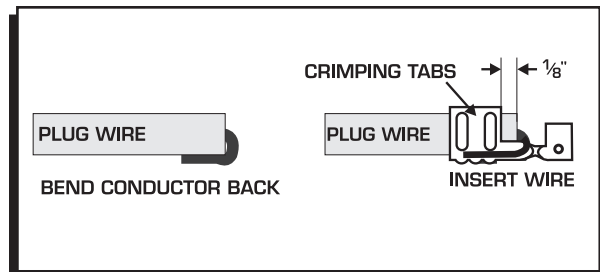

Figure 4 Preparing the Terminals.
5. Bend the conductor back along the wire insulation. Slide the wire into the terminal with the conductor positioned so it is in contact with the bottom of the terminal (Figure 4). Push the wire through until the sleeve protrudes about 1/8" beyond the crimp tabs.